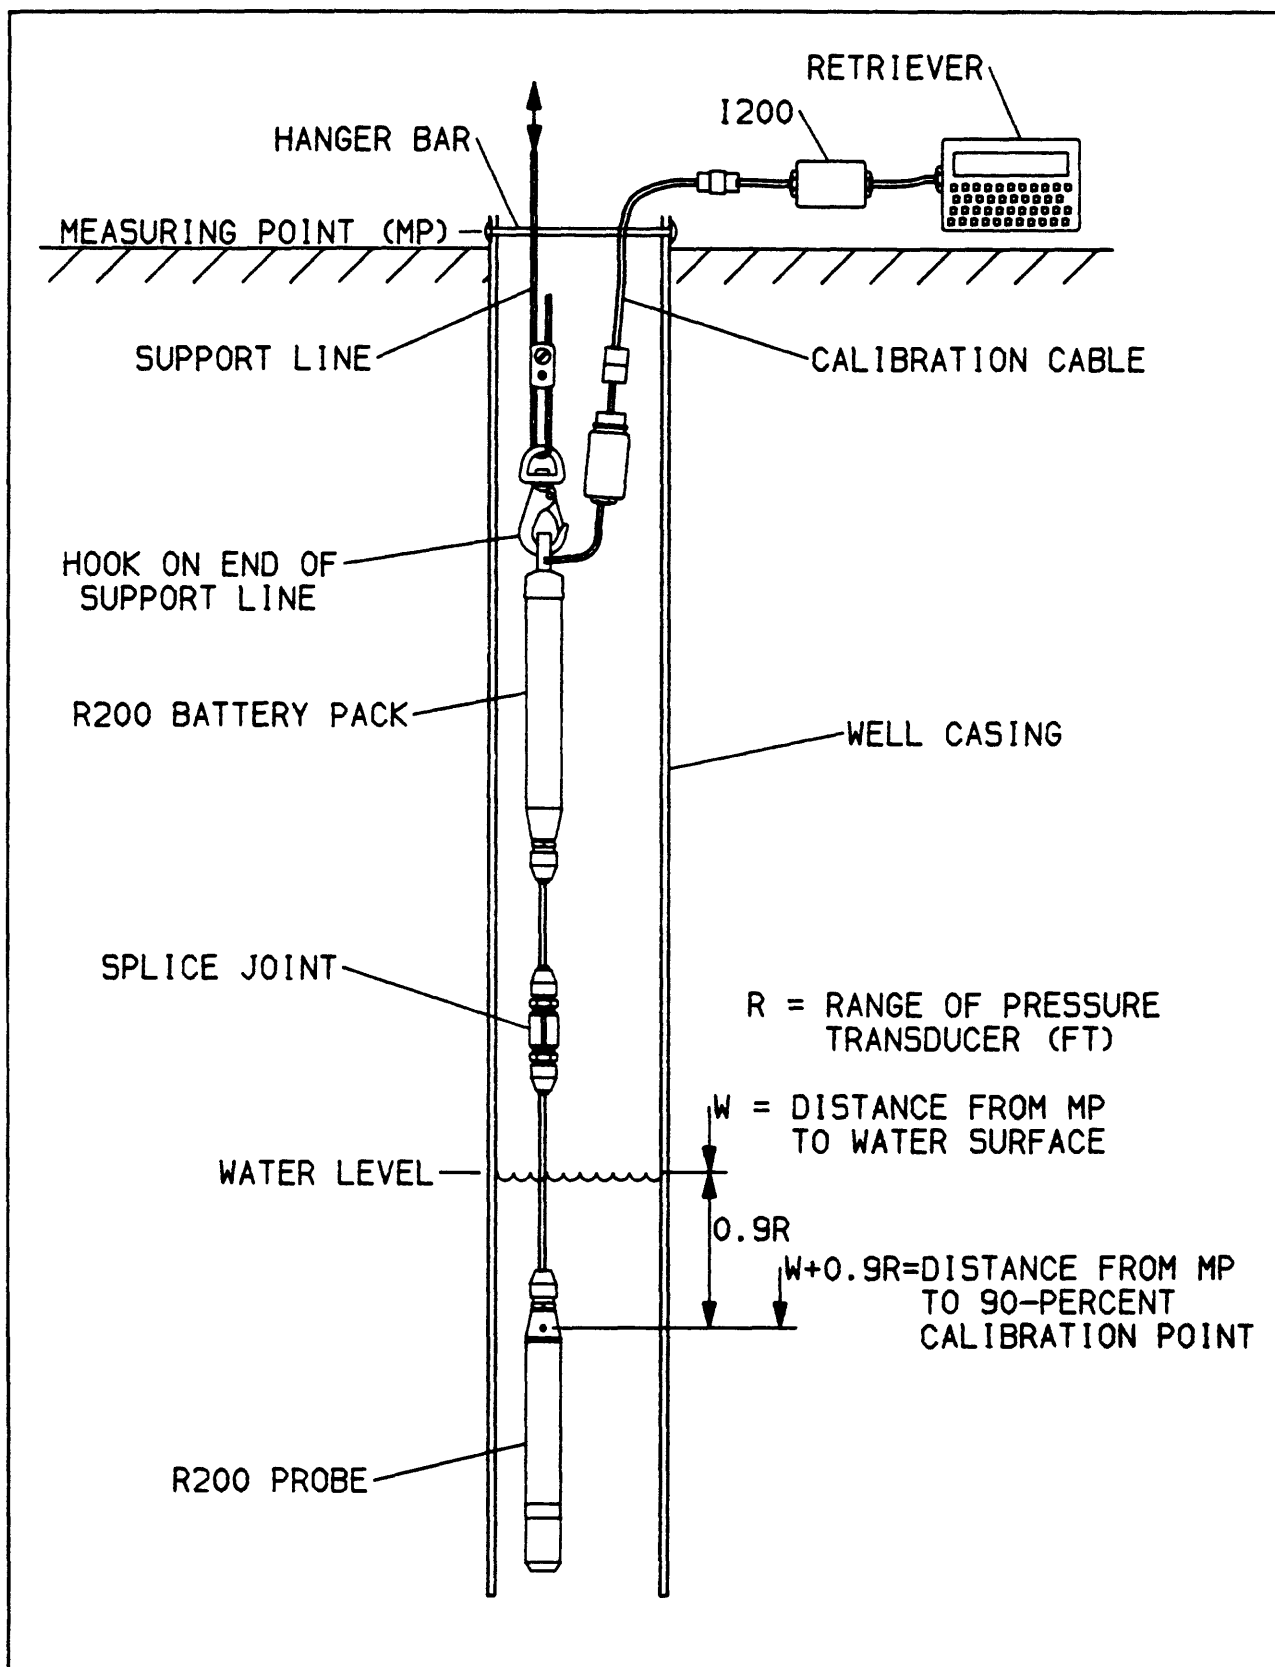

Figure 10.--Achievement of 90-percent calibration-point depth using calibration cable and support line.
**NOTE:** If the combined length of the probe cable and the battery-pack cable is too short to allow the probe to be lowered to the 50-percent calibration point, then a calibration cable will be needed along with some method of lowering the entire R200 (probe and battery pack) into the well. Figure 10 depicts this situation for the 90-percent calibration point. This figure suggests using a support line in an "inverted" manner to lower the R200. A calibration cable is used to extend the I/O connector to the top of the well to allow retriever communications.
**NOTE:** If the combined length of the probe cable and the battery-pack cable is too short to allow the probe to be lowered to the 90-percent calibration point, a calibration cable will be needed along with some method of lowering the entire R200 (probe and battery pack) into the well. Figure 10 depicts this situation for the 90-percent calibration point. This figure suggests using a support line in an "inverted" manner to lower the R200. The calibration cable is used to extend the I/O connector to the top of the well to allow retriever communications. **CAUTION:** When using the calibration cable, some form of support line must be used to suspend the R200 as the calibration cable cannot support the weight of an R200. At its unused end, this support line should be fastened to something sturdy to prevent loss of the entire R200 unit if the support line is released.